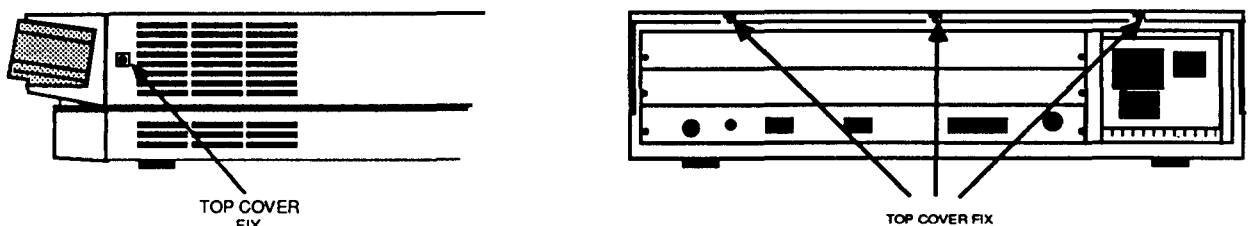

Fig.1: The screws holding the top case.
- 2 Locate the screws holding the top case in place (see Fig. 1 below). Remove the three screws at the top rear of the unit, then remove the single screw located on each side of the unit, towards the front.